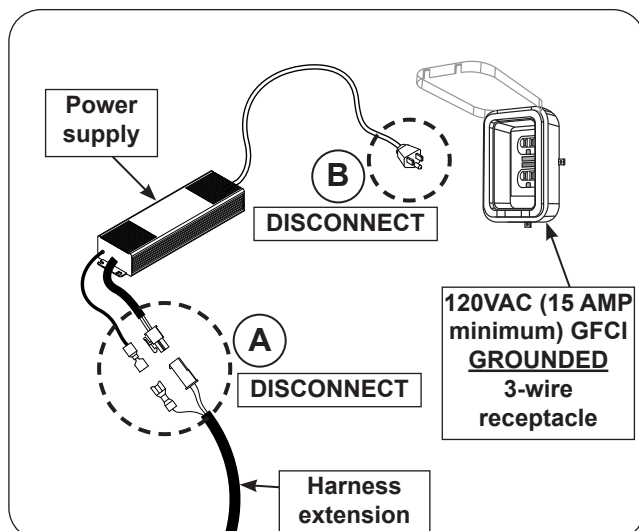

Fig. 41-4 Perform system reset
2. Disconnect the harness extension from the power supply (see Fig. 41-4, A).
3. Disconnect the power supply from the power source. (see Fig. 41-4, B).